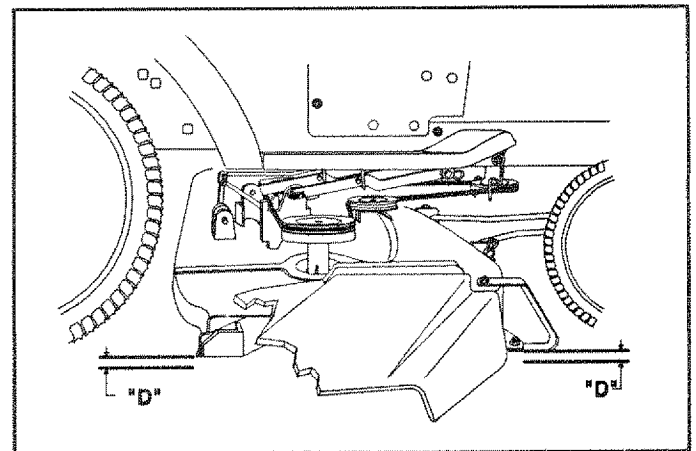

FIG. 20
**FRONT-TO-BACK ADJUSTMENT (See Figs. 20 and 21) -**